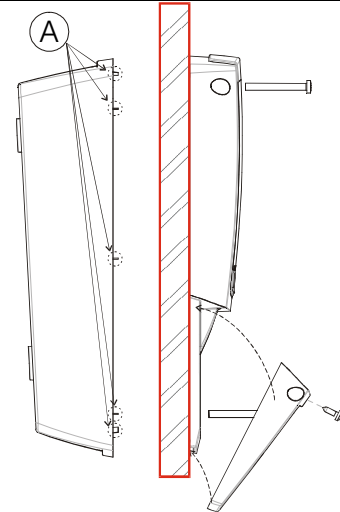

Bild 6
- Cut from the back part of the Cool Mate the teeth indicated in Fig. 6, A.